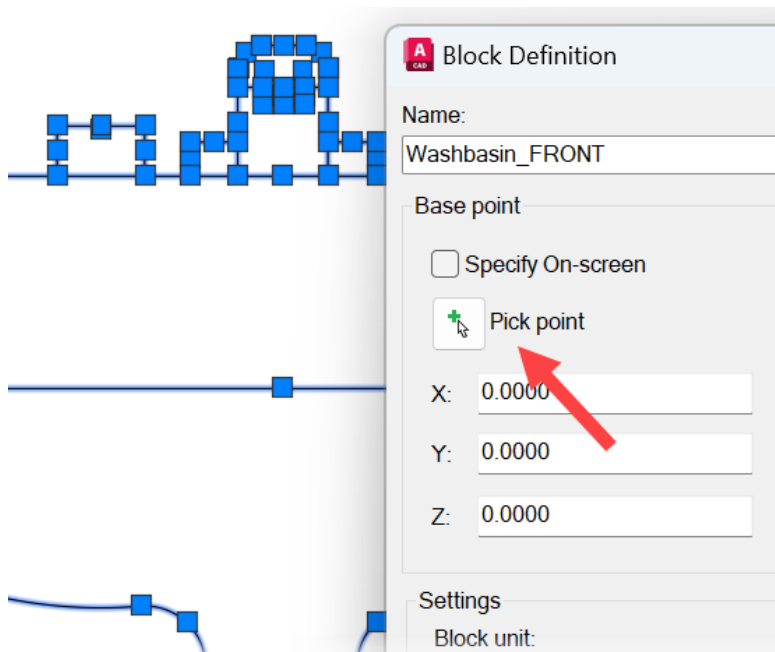

Figure 12.4: The Pick point icon in the Block Definition dialog box
4. Click on the **Pick point** icon, as shown in *Figure 12.4*.